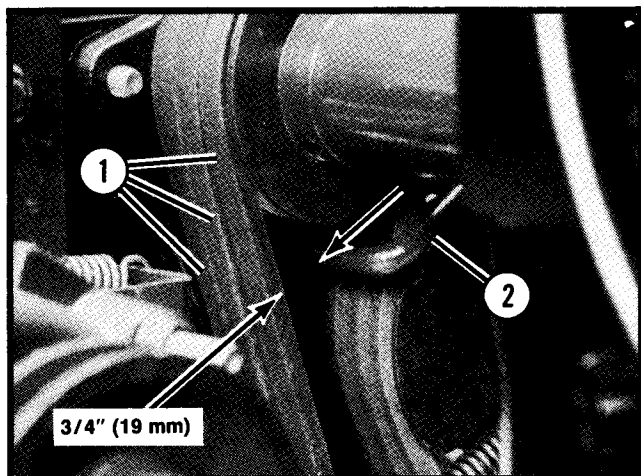

Figure 18. Reel Belt Clearance
3. Push the reel lever forward to engage the reel belts. Measure the clearance between the inside face of the belts and the front belt stop (See Figure 18).